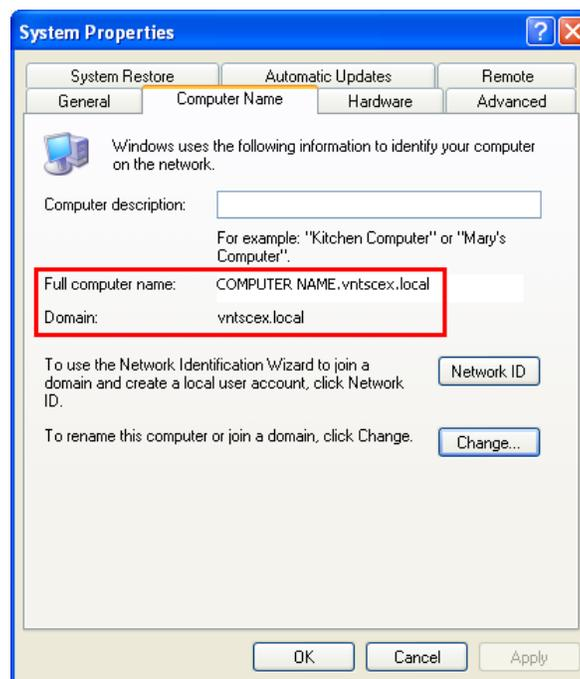

Figure D-1 System Properties in Windows XP
- b. The *Systems Properties* dialog box will open. Select the *Computer Name* tab (Figure D-1).
- c. The *Full computer name* consists of computer name and domain. The computer name without the *Domain* at the end is the desired SQL Server instance name (e.g. in Figure D-1 only *COMPUTER NAME* is needed, not *.vntscecx.local*).